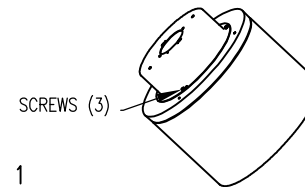

FIG. 1
1. LOOSEN 3 SCREWS ON TOP OF FIXTURE HOLDING SURFACE EXTENDER TO FIXTURE (SEE FIG. 1).